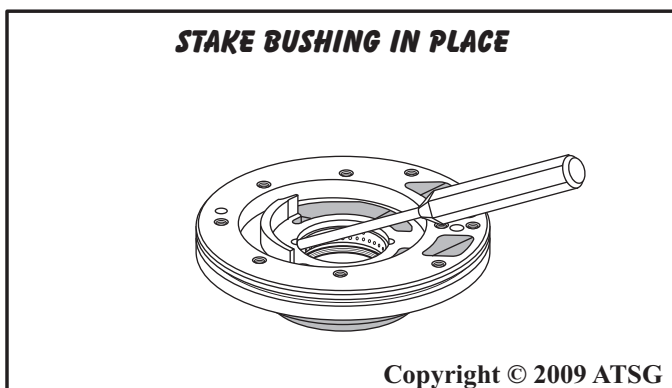

Figure 86
6. Stake the bushing in place using a pin punch, as shown in Figure 86.